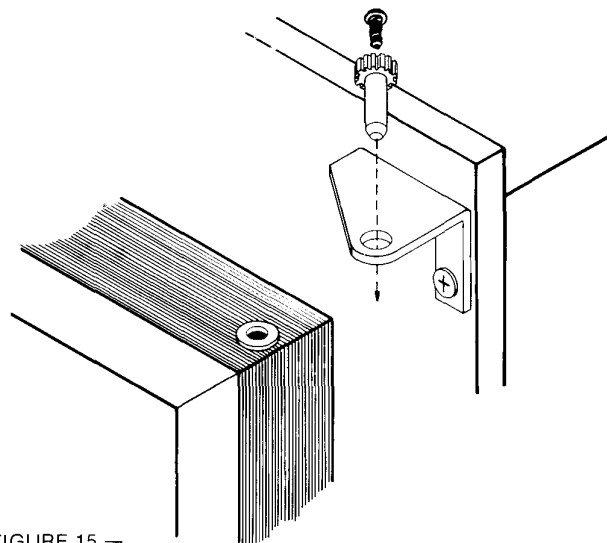

FIGURE 15 —
5. Change the travel lock pin to opposite side (Fig. 15 and 16).